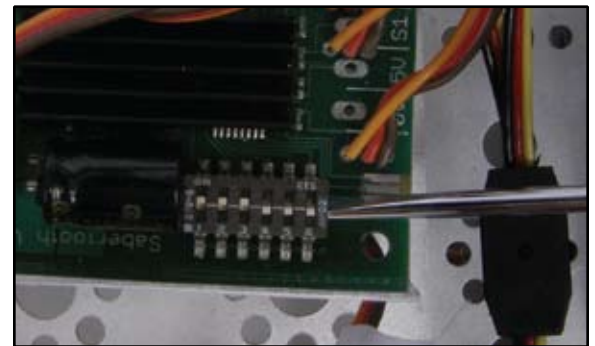

Figure F8
11) On the DC motor controller, flip the switches so 1, 2, and 3 are flipped up (on) and 4, 5, and 6 are flipped down (off) (Figure F8).